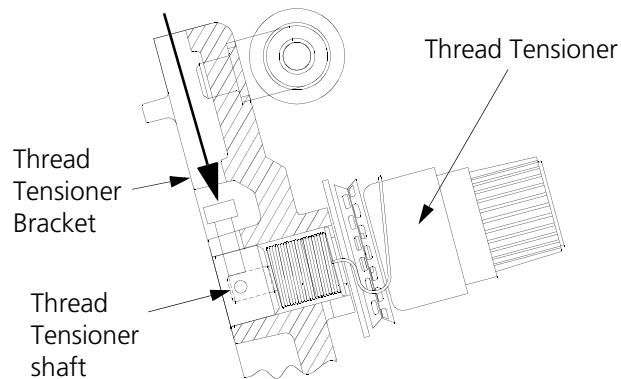

Figure 3-10
1. Using a 2.5 mm Allen wrench, loosen the set screw associated with the thread tensioner to be removed (see Figure 3-10).
4. Tighten the set screw in the top of the thread tensioner mounting bracket that secures the thread tensioner (see Figure 3-10).
4. While holding the check spring in position, place the thread tensioner into the tensioner bracket (see Figure 3-10).
5. Tighten the set screw in the top of the thread tensioner mounting bracket that secures the thread tensioner (see Figure 3-10).
6. Slightly loosen the set screw in the top of the thread tensioner mounting bracket that secures the thread tensioner (see Figure 3-10).